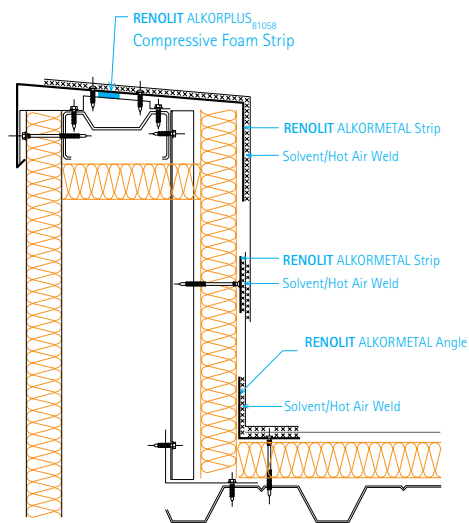

fig. 4: RENOLIT ALKORPLUS₈₁₀₅₈ compressive foam strip
• With a RENOLIT ALKORPLUS₈₁₀₅₈ compressive foam strip underneath the RENOLIT ALKORPLAN metal sheet trim, the parapet top is sealed against wind pressure. (See fig. 4) The membrane is protected from an abrasive upstand surface by a RENOLIT ALKORPLUS₈₁₀₀₅ protective layer (min. 300 g/m²). Where the parapet height exceeds 500 mm, intermediate support with a continuous RENOLIT ALKORPLAN metal sheet (50 mm wide) is required.